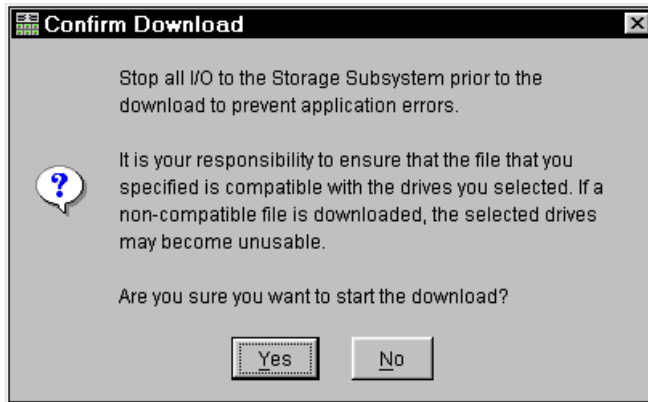

Figure 4-23 Field Tool Confirm Drive Microcode Download
- The Confirm Download window opens as shown in Figure 4-23. Click **Yes** to confirm the download and the process begins.